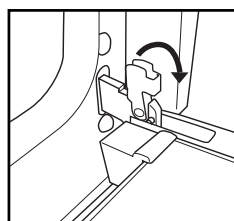

Fig. 1
2. Lift the catches and push them forwards as far as they will go (Fig. 1).